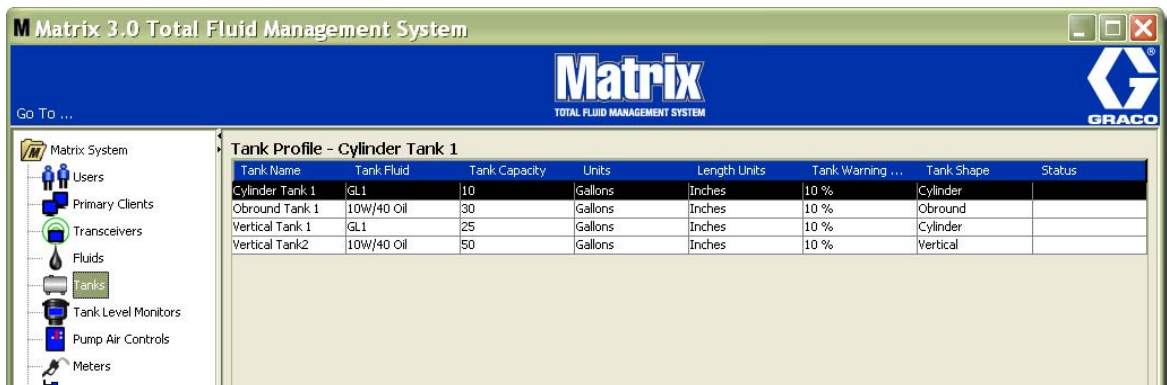

FIG. 119
1. When all required information for the tank profile has been supplied, click OK to close the screen and save the changes. The tank is added to the list as shown in FIG. 119.
2. To modify a Tank profile (FIG. 119) highlight the entry listed on the main Tanks screen as shown in FIG. 119.